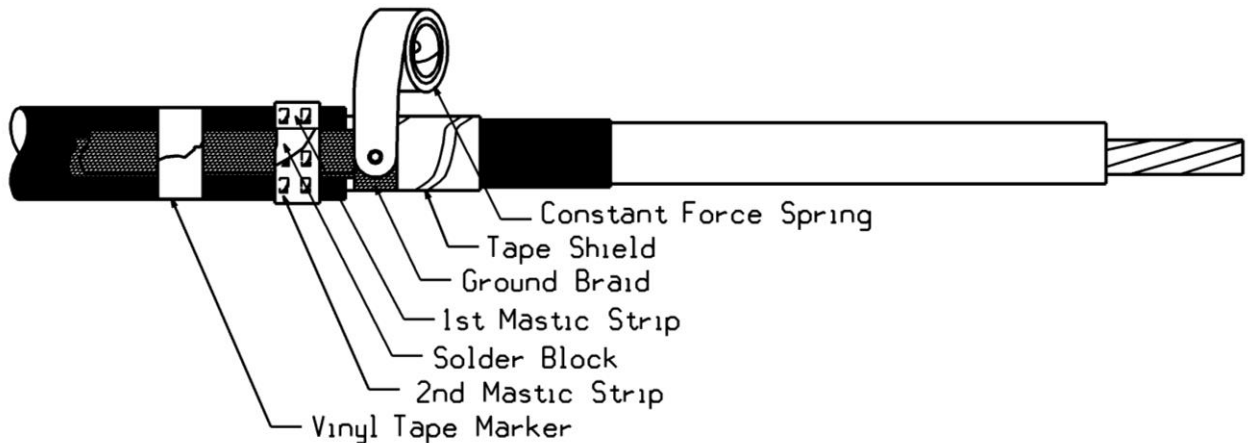

Figure 19
- Wrap the ground braid around the metallic shield, placing the solder block on the second tail on the mastic applied in Step 1. Secure with a constant force spring. Using the second mastic strip from the termination kit, remove the liners and wrap mastic over the solder blocks and the first mastic strip. If the solder blocks overlap each other, mastic must be applied between the solder blocks as well as over them. See Figure 19.